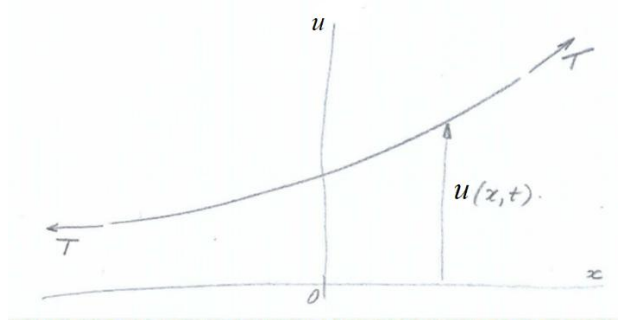

Figure 1 Taut string under tensile load T : (a) general view; (b) infinitesimal element
Consider a taut string of mass m per unit length stretched by a constant tension load T (Figure 1). The string undergoes small- amplitude transverse vibration with frequency ω as described by the following formula: $u(x,t)=U(x)e^{-i\omega t}$ (vibration motion) (1) Do the following:
- (1) state the assumption made about the string tension T during the vibration motion u
- (2) draw free-body diagram (FBD) of an infinitesimal string element of length ds and write sum of y forces in terms of string tension T and slope α
- (3) apply small-displacement approximation and write the approximate expressions for ds , $\sin\alpha$, $\sin(\alpha+d\alpha)$
- (4) write the linearized expression for the sum of y forces
- (5) express the slope increment $d\alpha$ in terms of space increment dx and the relevant partial derivative of the displacement $u(x,t)$
- (6) apply Newton's law of motion (NLM) and write the NLM equation
- (7) write the governing equation for string vibration in terms of tension T , mass per unit length m , and the relevant partial derivatives of the displacement $u(x,t)$
- (8) define wavespeed c for wave traveling in a taut string in terms of tension T and mass per unit length m
- (9) write the wave equation
- (10) substitute Eq. (1) into item (9) and eliminate the time dependency $e^{-i\omega t}$ to obtain an ODE defining $U(x)$